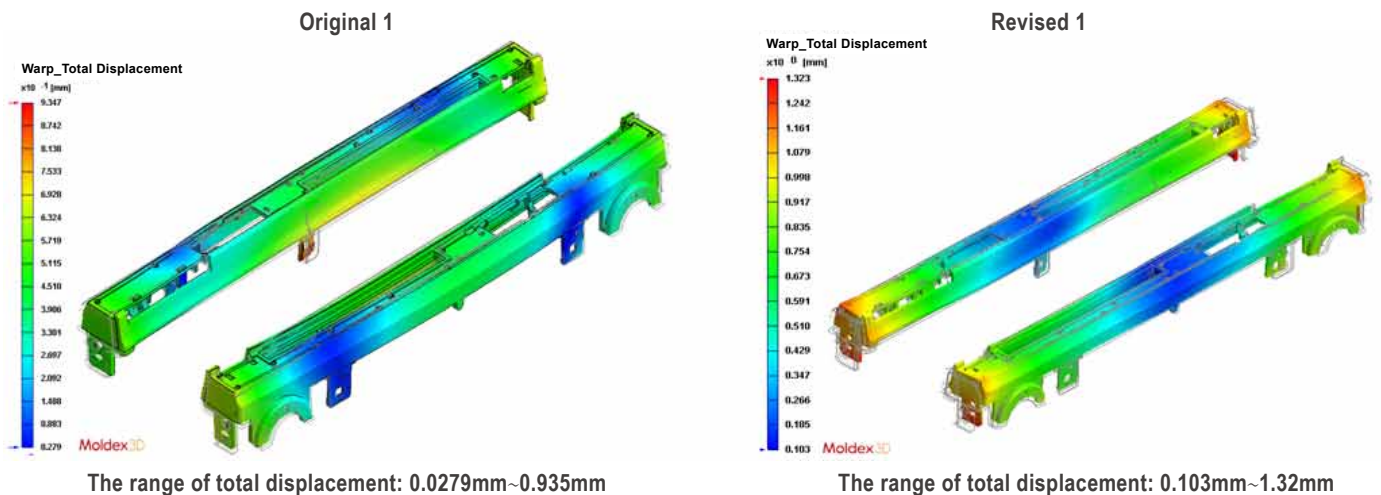

Fig. 5: The total displacement amount in Revised 1(right) was greater than Original 1(left).
- As shown in Fig. 5, due to the product geometry, warpage cannot be improved from the use of one-gate. There is also a negative effect of larger mold temperature difference caused by lower coolant temperature. Therefore, GoHope suggested to change the part thickness design.